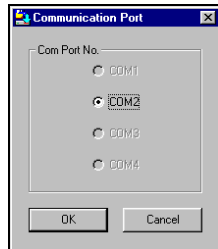

Figure 8-3 The Com Port Option box
- From the Options menu choose Com Port. The Com Port Option box appears. See Figure 8-3.